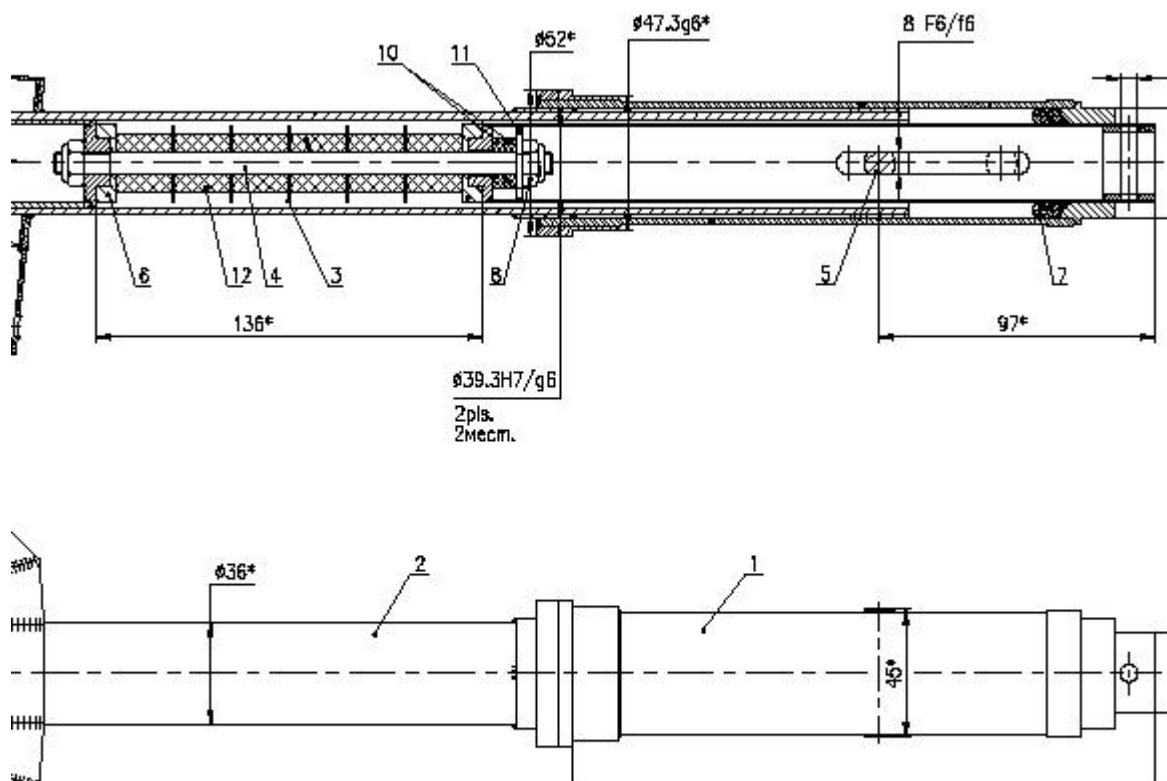

Fig. 4
- Take out the pin (KA4010101) (pos. 5, Fig. 4). Make sure there is no play between the pin (KA4010101) and the slot in KA4010110 Rotating body (pos. 2). Replace the pin (KA4010101) if necessary.
- Unscrew the upper nut (C9996336 Self-locking nut DIN 985-M8, regular) (pos. 8) by 2 screwdrivers with header 13 mm.
4. Make sure of integrity of the Polyurethane Damper Elements (Urelastfeder 90 Shores (red 25/10,5 mm. X 20 mm)) (pos. 12). Replace if necessary
13. Stack the polyurethane damper elements to the pin axis (pos. 4) as follows: support (pos. 6) flat surface facing the first polyurethane element, 6 polyurethane elements separated each by a washer (pos. 3), support (pos. 6) (flat surface facing the last polyurethane element). See Fig 4.
15. Assemble the shock absorber by running items 1 through 3 in reverse order. Tighten the nut C9996336 (Self-locking nut DIN 985-M8, regular) 200 lb-in / 22.5 Nm.